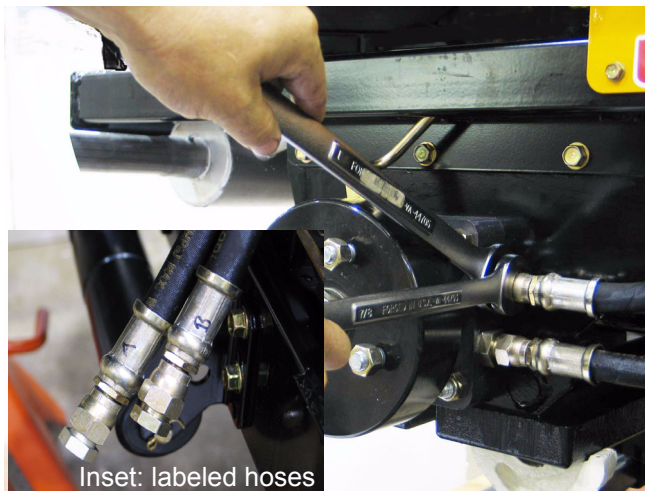

Figure 26.7
26.7. Match mark and disconnect the hydraulic hoses from the wheel motor using a 7/8" wrench and a 1" wrench. See Figure 26.7.